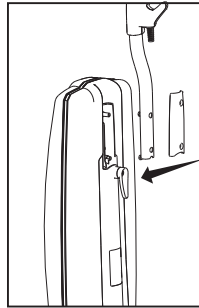

Fig. 3
- Place handle onto the back of the vacuum, aligning holes with pegs (Fig. 3).